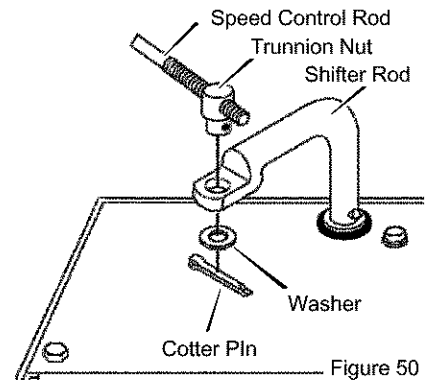

Figure 50
2. Remove **washer** and **cotter pin** that connect the **trunnion nut** to the **shifter rod**. Remove the **trunnion nut** from the **shifter rod** (see Figure 50).
4. Turn the trunnion nut until it is aligned with the mounting hole in the shifter rod (see Figure 50). When aligned, attach the trunnion nut and secure with washer and cotter pin.